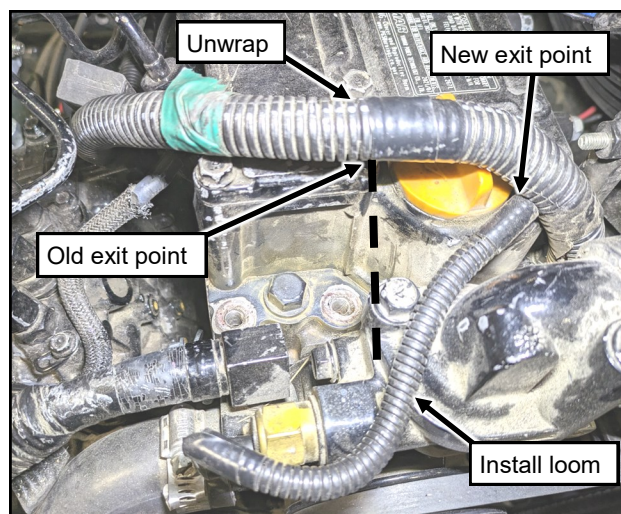

Fig. 1.34 (Move and wrap water temp. sensor wires)
1.34 Unwrap the loom tape next to the water temperature sensor wires. Move the exit point of the wires about 2" forward from where the dashed lines show in figure 1.34. Tape the wires in place and add the supplied wire loom.